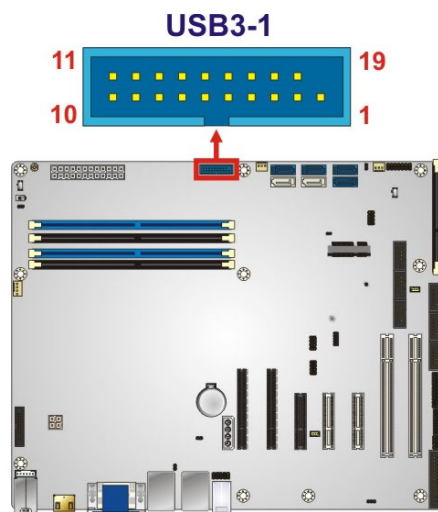

Figure 3-33: USB 3.0 Connector Location
- CN Location:** See **Figure 3-33**